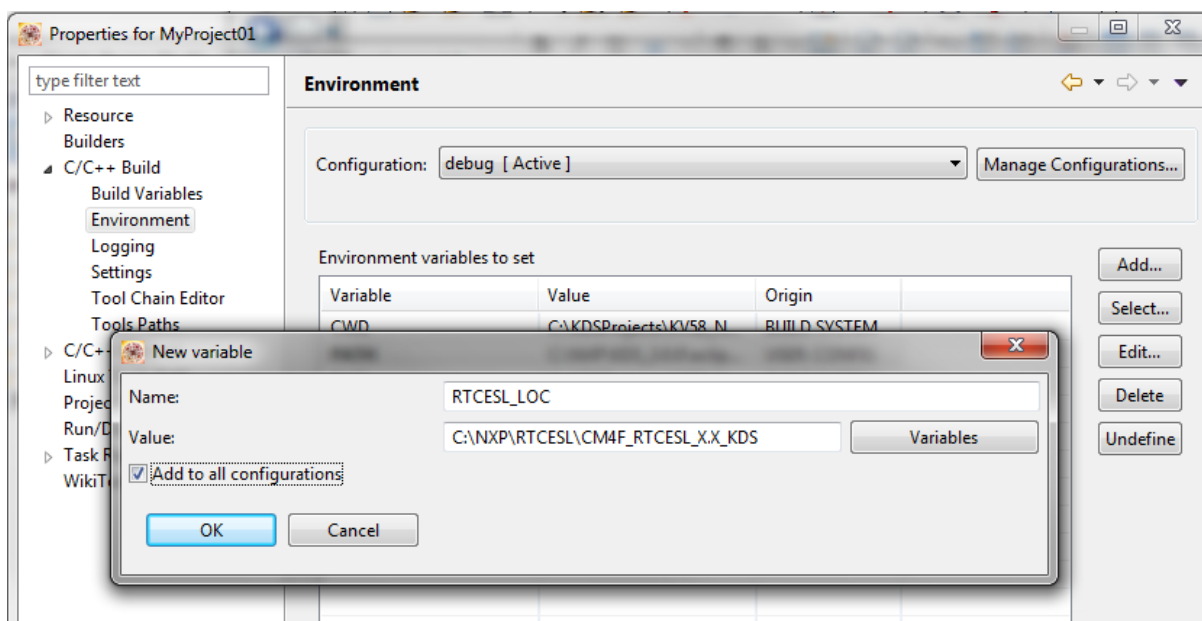

Figure 1-14. Environment variable
8. In the dialog that appears (see Figure 1-14), type this variable name into the Name box: RTCESL_LOC.
10. Tick the Add to all configurations box to use this variable in all configurations. See Figure 1-14.